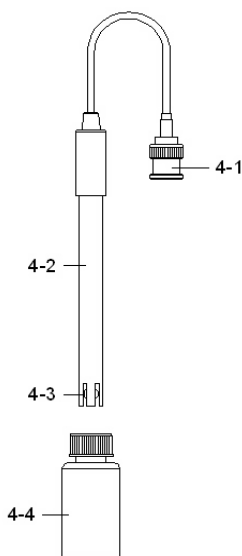

Fig. 2
- 1) Prepare the pH Electrode (optional), install the " Probe Plug " (4-1, Fig. 2) into the " pH Socket/BNC Socket " (3-11, Fig. 1).
- 4) Hold the " Electrode Handle " (4-2, Fig. 2) by hand and let the " Sensing head " (4-3, Fig. 2) immersed wholly into the measured solution and little shake the probe.
When not use the Electrode, it should immerse the " Electrode sensing head " (4-3, Fig. 2) into the " Protection bottle " (4-4, Fig. 2)